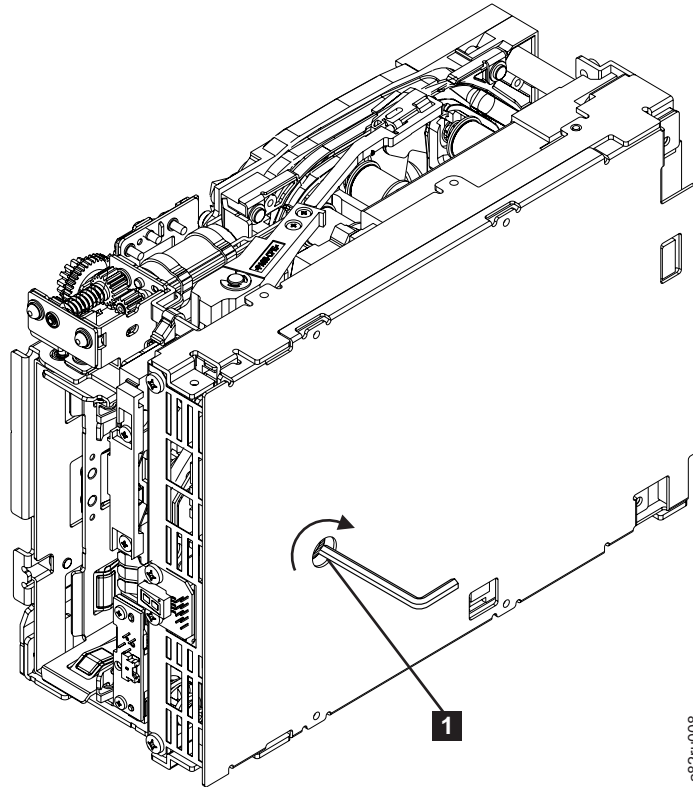

Figure 8-126. Using hex wrench to rewind tape into cartridge
6. From the bottom of the drive, locate the access hole (**1** in Figure 8-126 on page 8-119) in the bottom cover. Insert a 2.5 mm offset hex wrench through the bottom cover access hole and into the reel motor axle. begin spooling tape back into the cartridge by turning the hex wrench clockwise.